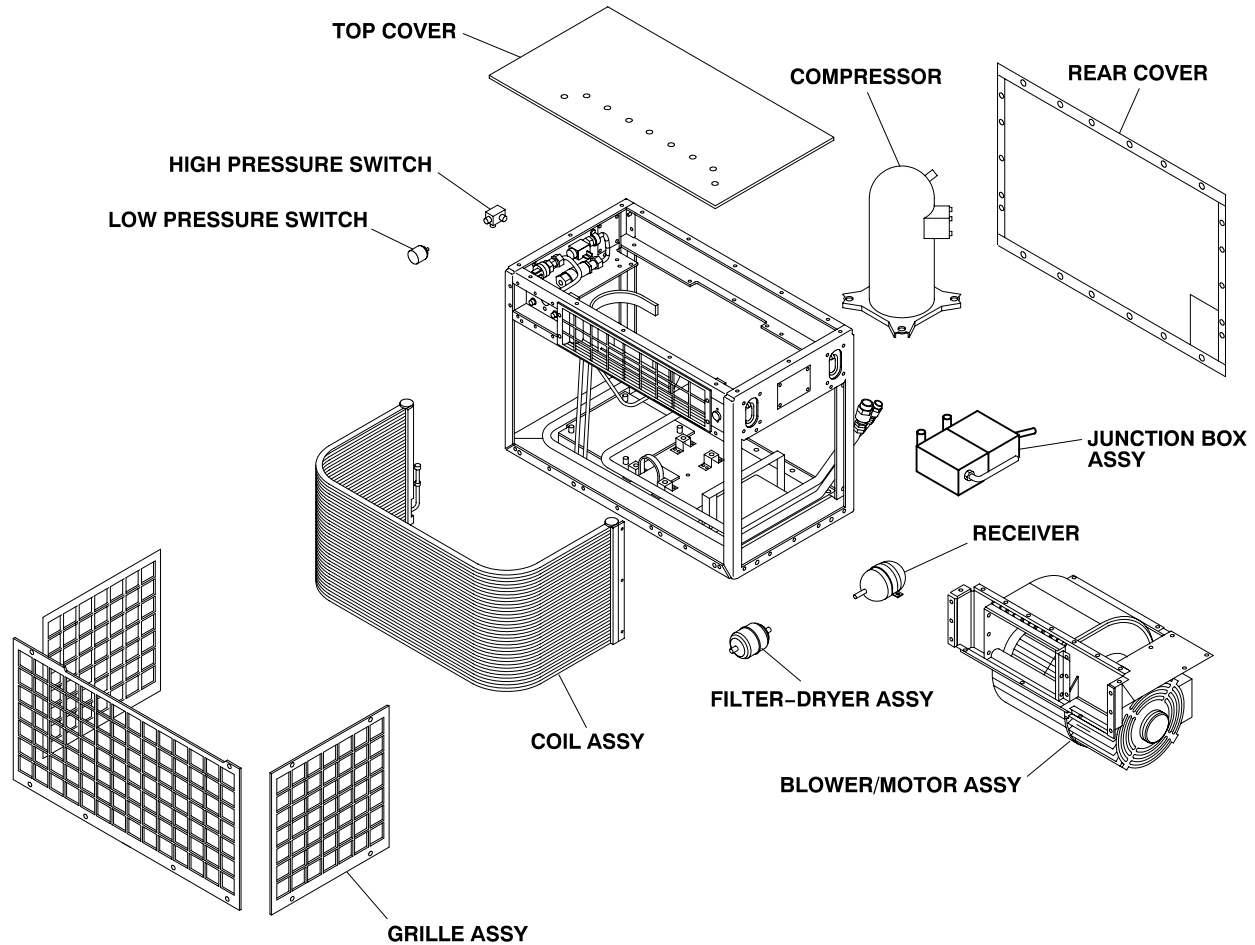

Figure 1. CONDENSER ASSEMBLY.
1. Remove screws from top condenser cover. See Figure 1.
2. Carefully remove the top condenser cover. See Figure 1.